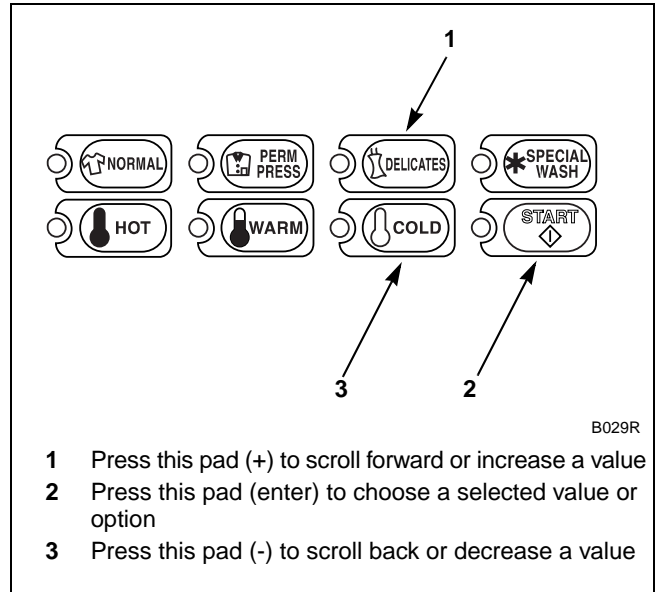

Figure 167
5. Press the DELICATES (+) or the COLD (-) keypad to increase or decrease the current output value displayed in the VFD to the desired output value. Refer to *Figure 167*.